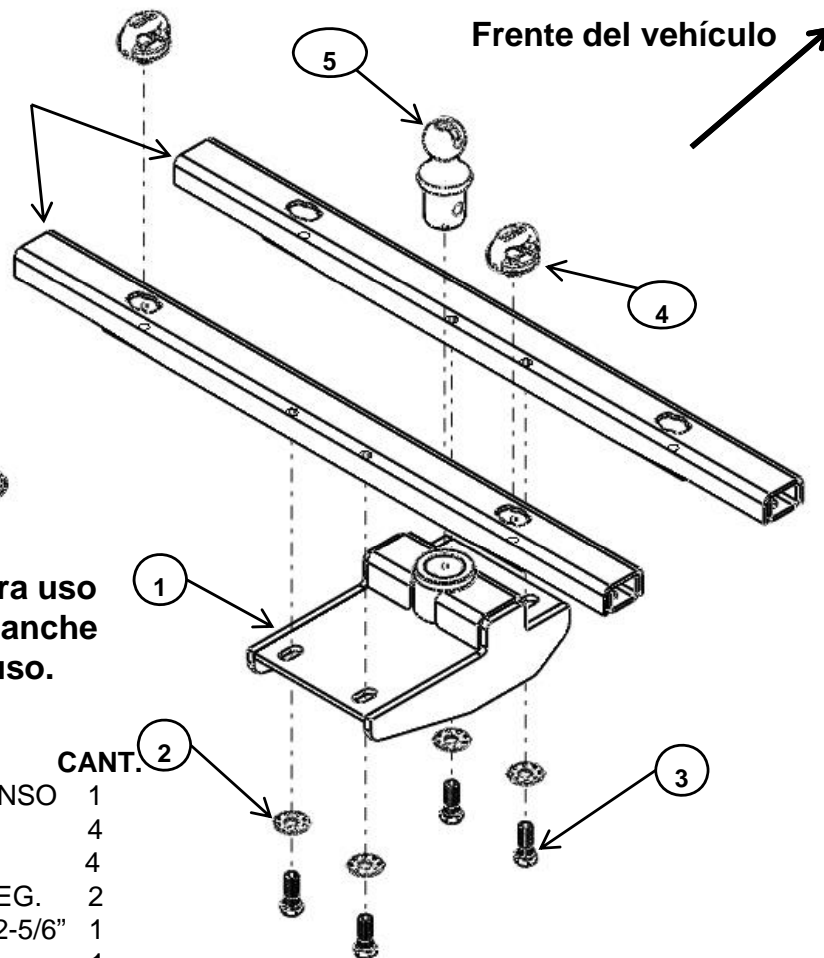

Fig. 1
1. Check all the boxes for all the components listed in **Figure 1** and become familiar with component terminology.